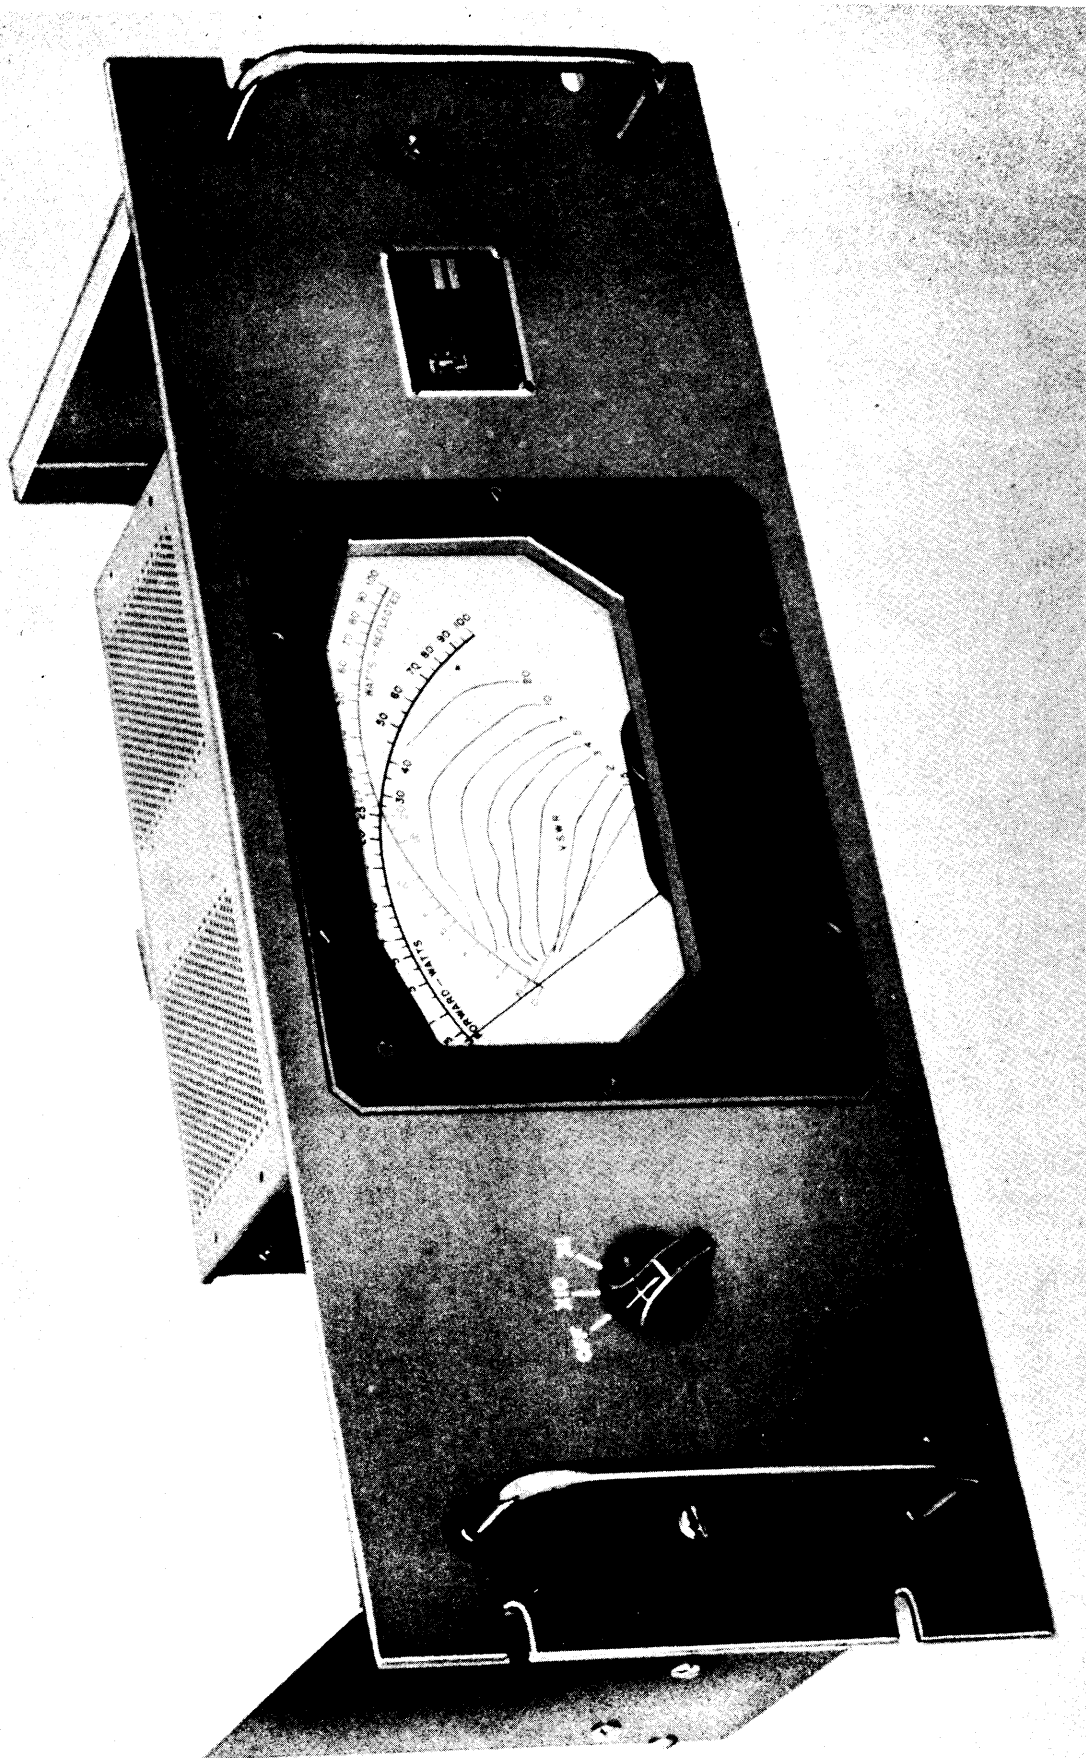

Figure 1-1. Standing Wave Ratio Indicator, Model SWR-1K ()
This manual contains technical information for the Standing Wave Ratio Indicator, Model SWR-1K, illustrated in figure 1-1. This unit provides accurate indication of the voltage standing wave ratio in a transmitter antenna. It is useful over a frequency range from 2 to 32 megacycles. It also provides indications of forward and reflected rf power. Standing Wave Ratio Indicator, Model SWR-1K (50) is used with 50 ohm transmission lines. Standing Wave Ratio Indicator, Model SWR-1K (70) is used with 70 ohm transmission lines.